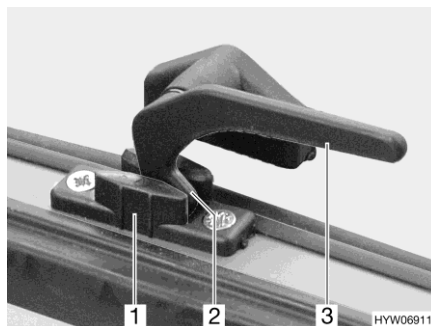

Fig. 68 Catch lever ("continuous ventilation" position)
- "Continuous ventilation" (Fig. 68)
- Turn all catch levers (Fig. 68,3) a quarter turn towards the centre of the window.
- Return all catch levers to their initial position. The locking catch (Fig. 68,2) has to be moved into the recess of the window catch (Fig. 68,1).